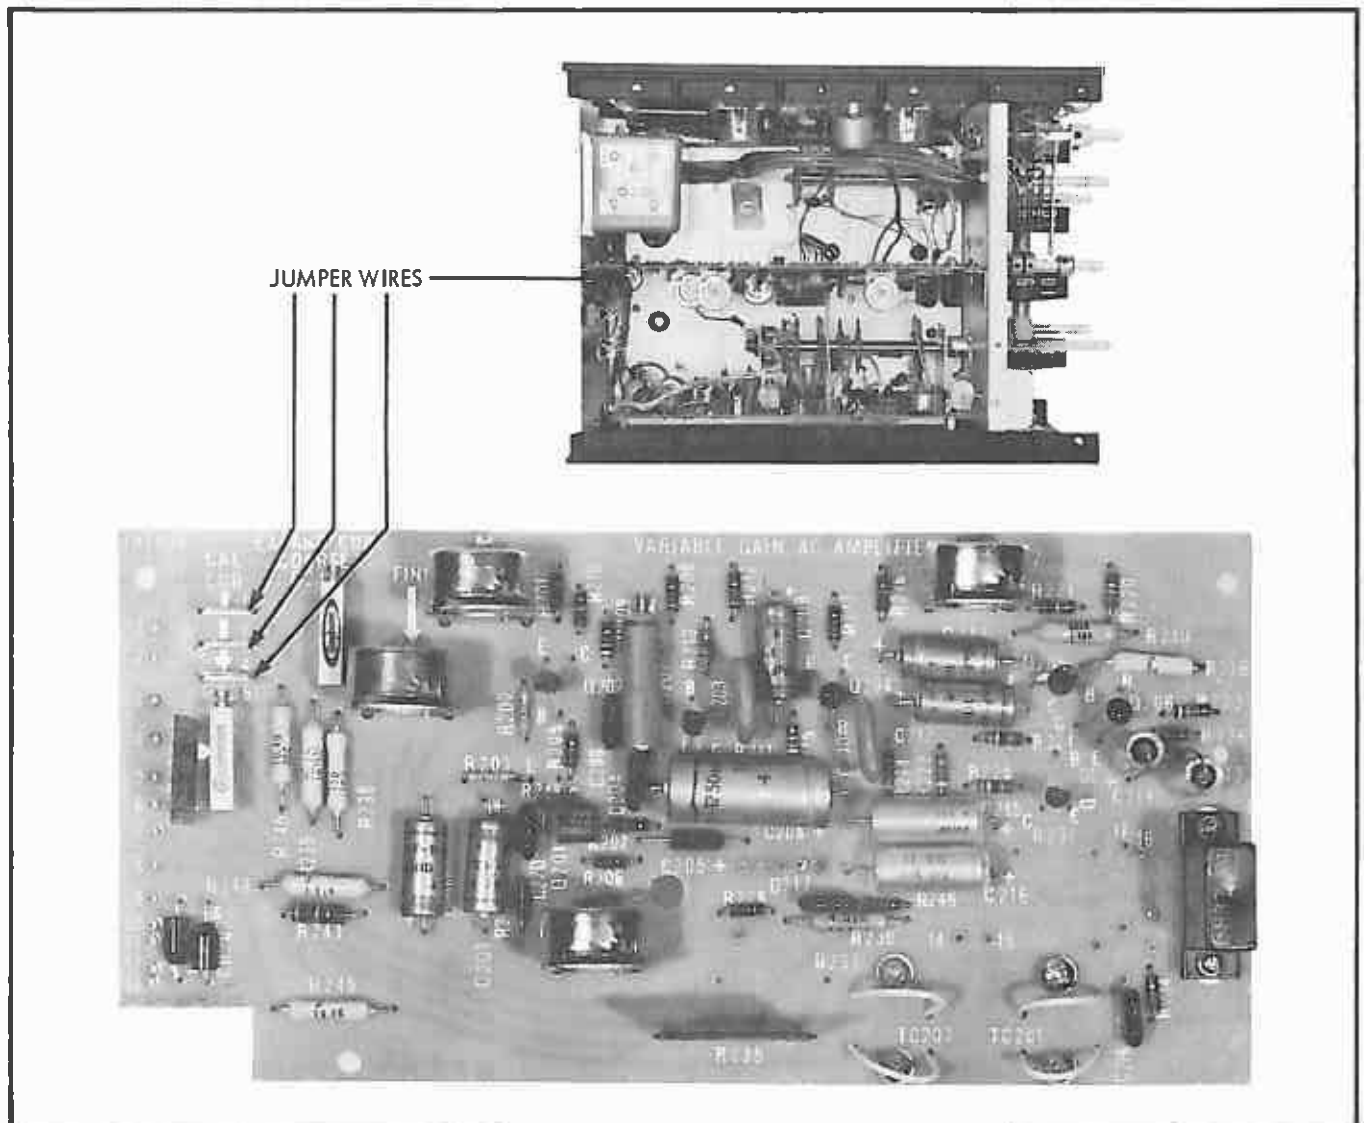

Figure 4-11. ABSOLUTE CALIBRATION JUMPER WIRE LOCATIONS
- a. Remove power from the Model 931B and reconnect any of the clipped CAL CUR jumper wires located on the Variable Gain AC Amplifier PCB. Refer to Figure 4-11 for location of the jumper wires.